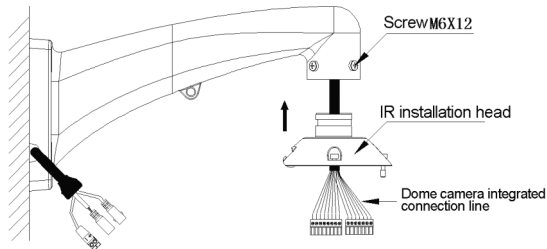

Fig 5-7 Connect the installation head and wall mounting bracket
3. Fix the installation head that with dome camera integrated connection line to wall mounting bracket, pass the connection line through bracket, move the installation head in the direction of the arrow, until it reaches the bracket, then fix 4 M6X12 screws, as fig 5-7.